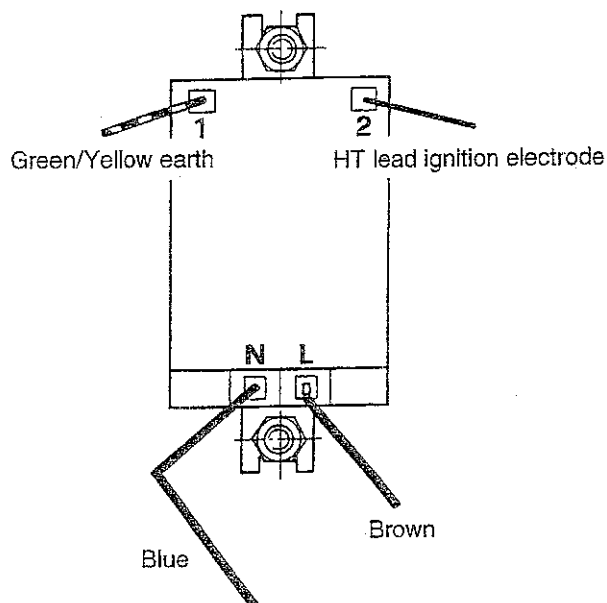

Fig. 44
- Release the two ignition generator fixing screws, situated at the base. (Refer to fig. 44 for wiring)
- Re-assemble in reverse order (Refer to fig. 44 for wiring) Check the ignition of the pilot.